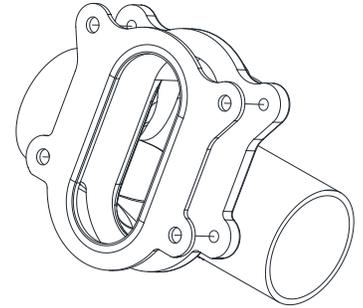

Figure 2
2. Place faceplate gasket from trim kit on fitting. Align the gasket holes with the tapped holes in the fitting ensuring that the gasket is oriented properly with the fitting flange. See Figure 2.